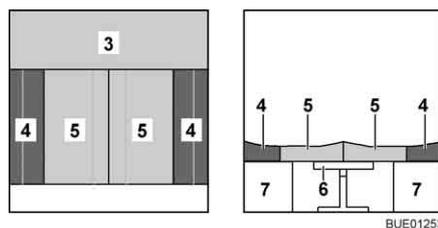

Fig. 103 After conversion
- Place the back cushions (Fig. 103,4) against the exterior wall. Observe the wedged form.
- Push the two seat cushions (Fig. 103,5) between the back cushions. Observe the wedged form.